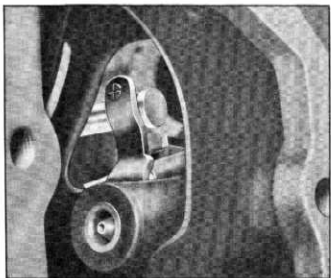

Fig. 135—Indexing Manual Valve Inner Lever and Reaction Lever
- NOTE: Remove left hand sump cover to observe mating of manual valve inner lever and reaction lever (fig. 135).**